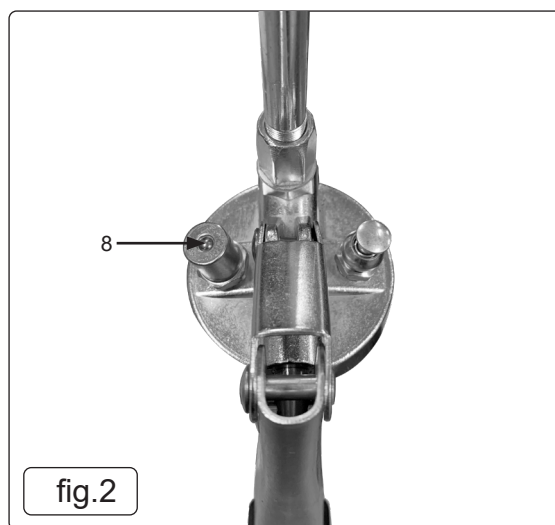

fig.2
4.2.5. Depress the air vent valve (fig.2).
4.4.1. Connect delivery mechanism from dispenser to the gun loader fitting (fig.2).